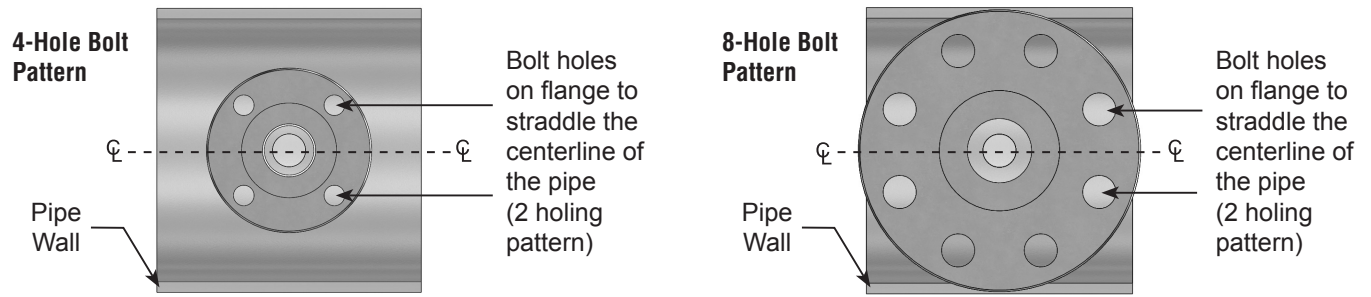

Figure 4. Bolt Hole Orientation
- Note the flange orientation per Figure 4. The bolt holes on the flange **MUST** straddle the centerline of the pipe (2-holing pattern). For V810 models, loosely bolt together the flanged opposite support, gasket and mounting flange and slide over the tip of the sensor and tack weld into position.